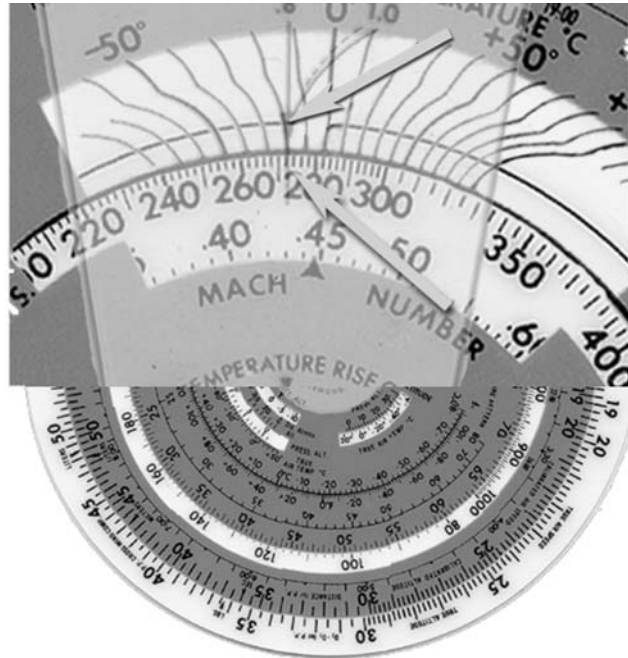

Figure 4.4-7 TAS 2 TEMP/TAS/MACH SPIRAL
2. Go to the large window at 12 o'clock to input the temperature. Be extra careful to set the green hairline at the intersection of the MACH spiral (black line running left to right) and the temperature wiggley (black line running top to bottom) representing -20°. Now follow the green line down to the TAS scale and read the value, in this case, 272 kts. (Figure 4.4-7)